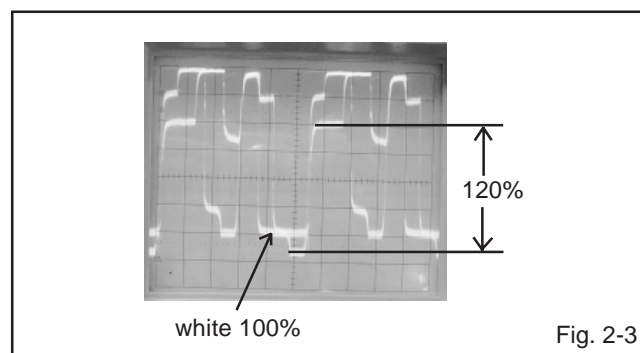

Fig. 2-3
6. Press the VOL. UP/DOWN button on the remote control until the red color level is adjusted to $120 \pm 5\%$ of the white level. **(Refer to Fig. 2-3)**